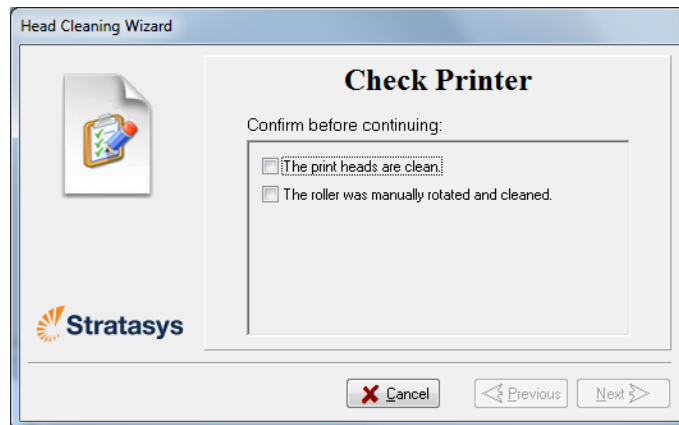

Figure 6-27 Head cleaning wizard—steps 5–11
11. When you have finished cleaning, select the confirmation check box in the wizard screen (see Figure 6-27) and click **Next**.